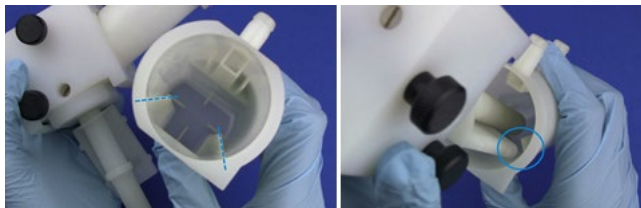

Figure 71. Lower the drain tube and float into the trap
- 2 Lower the drain tube into the trap, ensuring that the float drops into the space between the two ribs that are opposite the two vent nipples – see Figure 71 below.